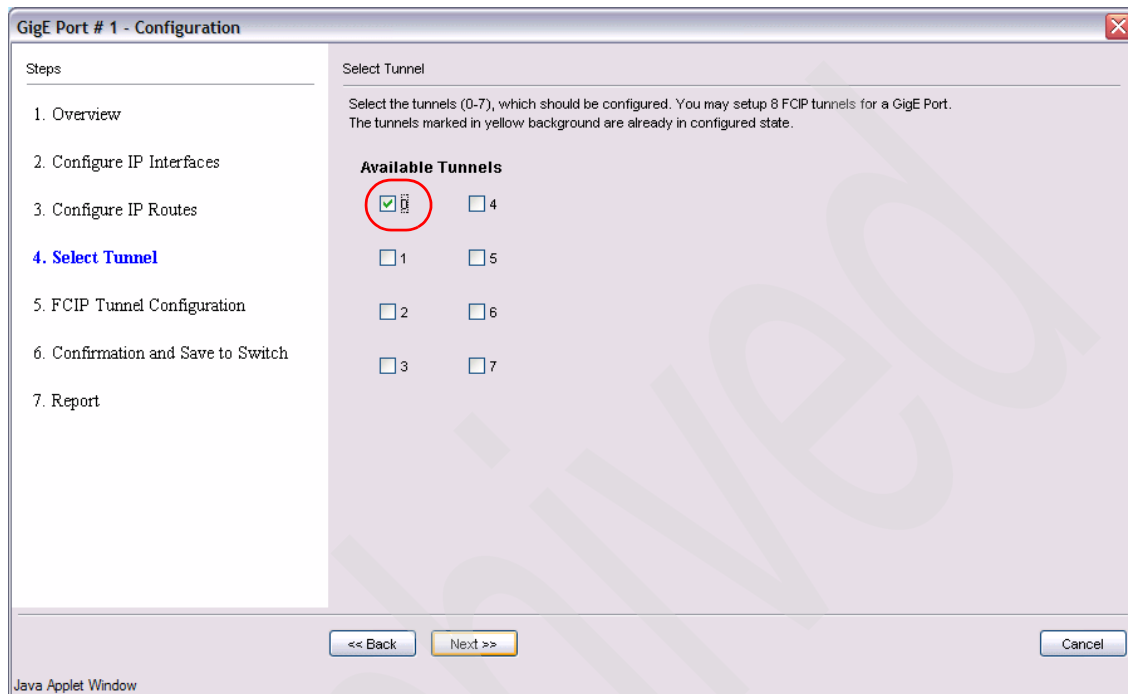

Figure 6-88 Select the FCIP Tunnel
5. We select the FCIP tunnel which will be configured. Up to eight tunnels, numbered 0-7, can be set up across each GigE port. As shown in Figure 6-88, we selected tunnel 0.